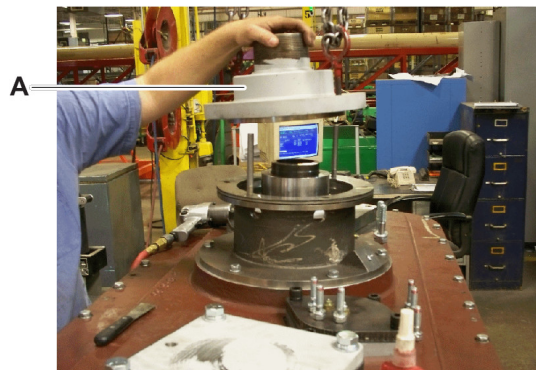

Figure 10
13. To determine the appropriate amount of shims from the shim kit needed between the mounting surfaces of the spindle cover and swivel housing to give the correct amount of squeeze on the air seal packing, install the spindle seal tool into the spindle cap. With the tool in position, temporarily install the spindle cover (Figure 10, item A) on top of the tool. Measure with a feeler gage the gap between the mounting surfaces of the swivel housing and the swivel cover for the correct shim required. When this is determined, remove the spindle cover and tool.